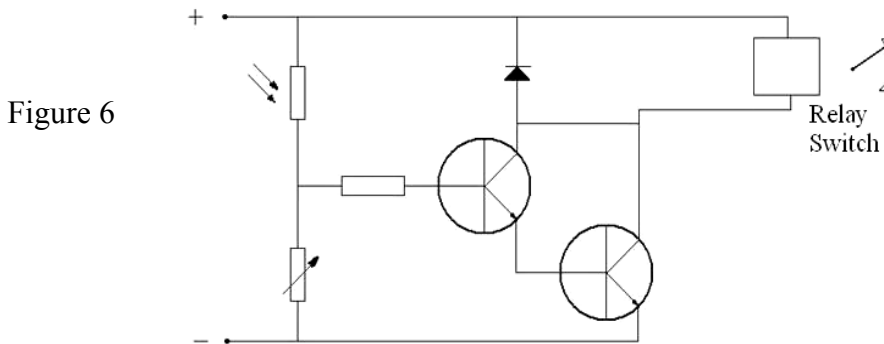

Figure 6
16. The circuit diagram in figure 6 shows a potential divider, triggering a Darlington pair to operate a relay switch.
a) On figure 6, draw a dotted line around the potential divider.
b) On figure 6, name the legs forming the connections of the Darlington pair.